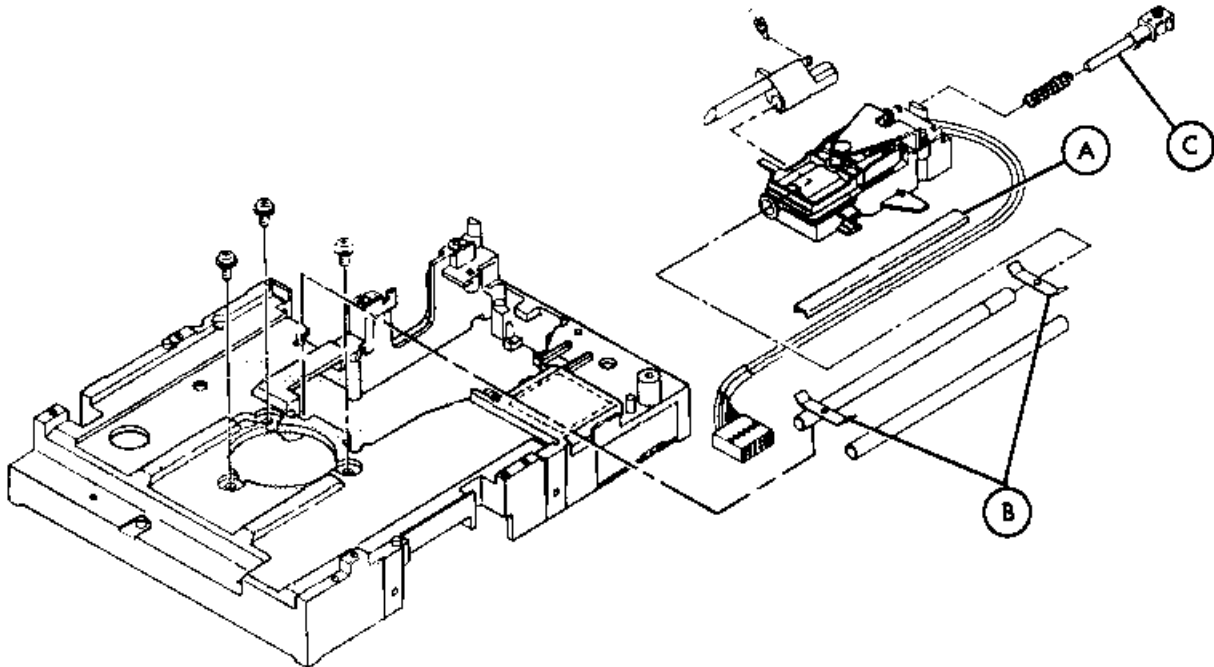

FIGURE 4-13. HEAD CARRIAGE REMOVAL/REPLACEMENT
4.3.13 Head Carriage Removal (Figure 4-13)
4.3.14 Head Carriage Replacement (Figure 4-13)